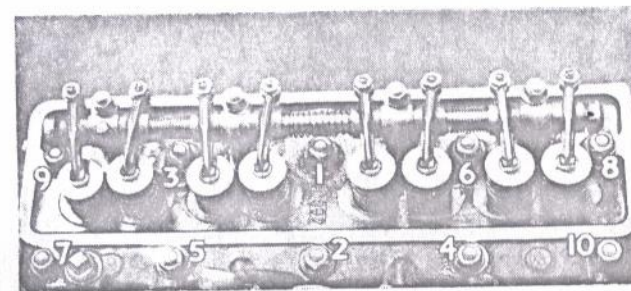

Fig. 7
After the first 500 miles (800 Km.) the cylinder head nuts should be checked, with engine warm, for tightness (100 ft. lbs.) in the order shown (see Fig. 7).
5. When replacing the cylinder head nuts, tighten them gradually in the sequence shown in Fig. 7 of the Instruction Book in order to produce an even pressure on the gasket and prevent undue strain in the cylinder head casting. If a new gasket has been fitted it will be necessary later to go over the nuts again and give them a further tightening. This should be done when the engine has been thoroughly warmed through.